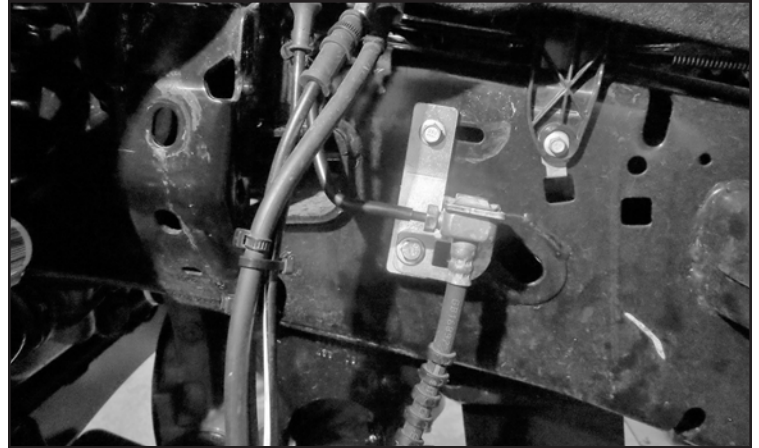

FIGURE 64 - STEP 52
52. Install FT30496 (Brake line bracket) to the frame using the factory hardware. Next, install the brake line to the new bracket using the supplied 5/16" hardware. Torque to 14 ft-lbs. **SEE FIGURE 64**